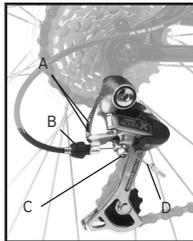

Figure 22- Rear derailleur
- Loosen the cable clamp bolt (Figure 22) until the cable is free.